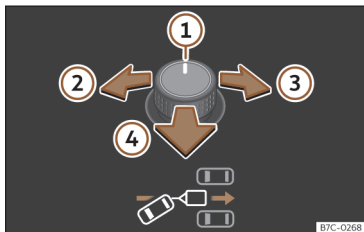
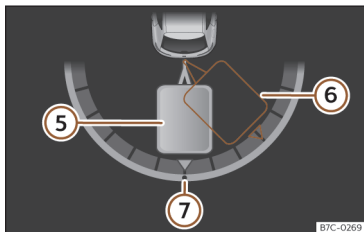

Fig. 141 Outside rearview mirror rotary control: adjust the trailer angle.
Fig. 142 Instrument cluster display: engage reverse.
Key to the >>> **Fig. 141**, >>> **Fig. 142**:
- Tilt the rotary control until the desired direction is reached >>> **Fig. 141**. A representation of the tow vehicle and trailer set is shown on the instrument cluster screen for guidance purposes >>> **Fig. 142**.